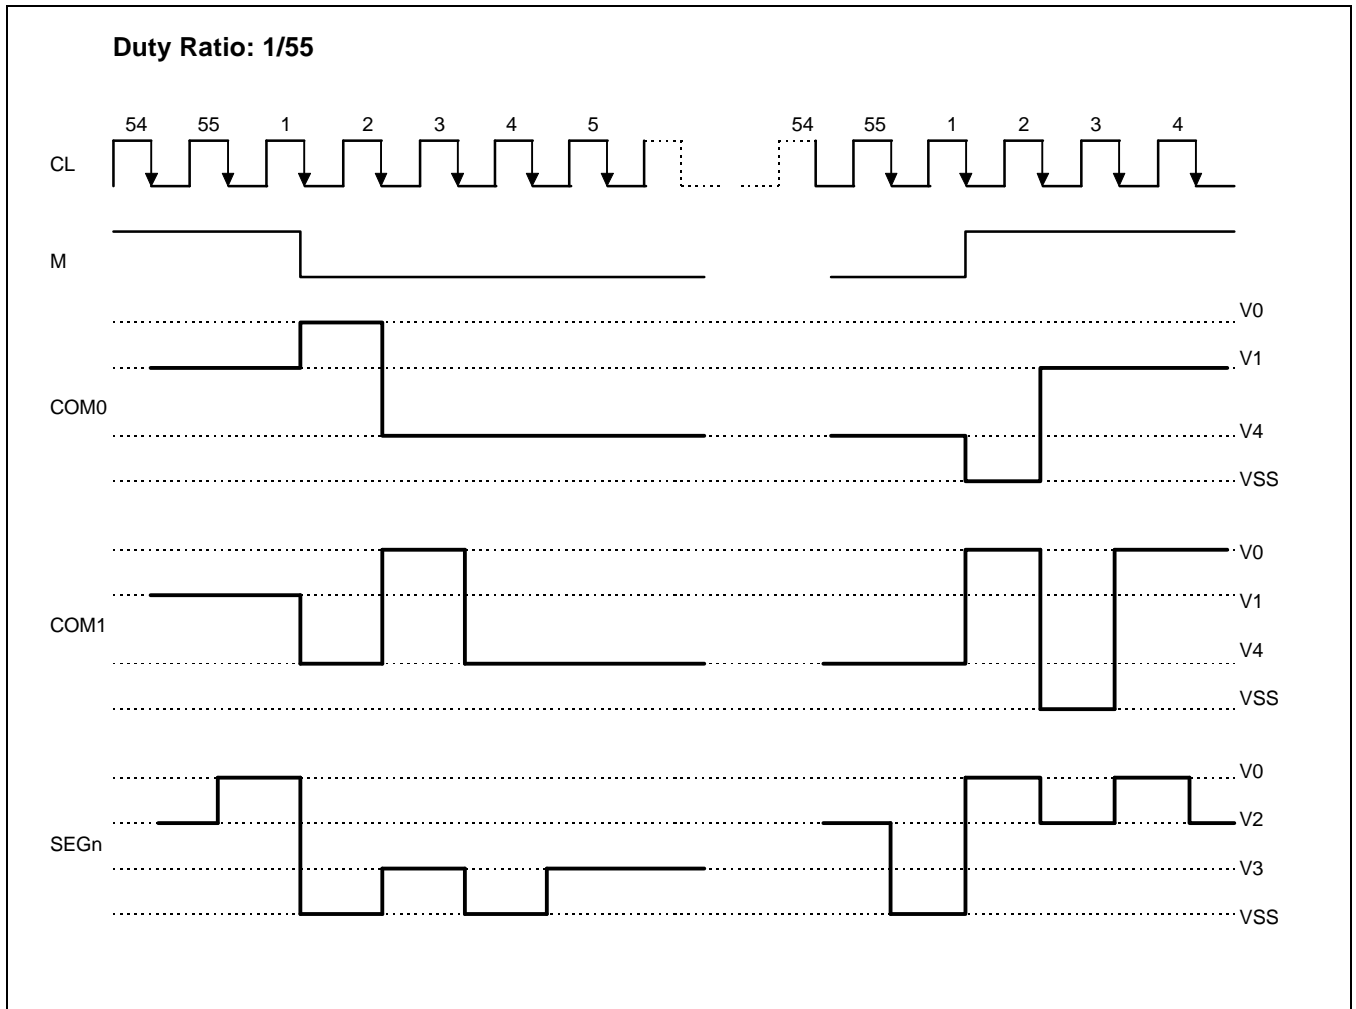

Figure 7. 2-Frame AC Driving Waveform
The display clock generates an LCD AC signal (M) which enables the LCD driver to make an AC drive waveform, and also generates an internal common timing signal and start signal to the common driver. 2-frame AC driver waveforms and internal timing signal are shown in Figure 7. When this KS0717 is used for multi-chip, the slave chip must receive the M, CL, DISP signals from the master. Table 8. shows the M, CL, and DISP status.